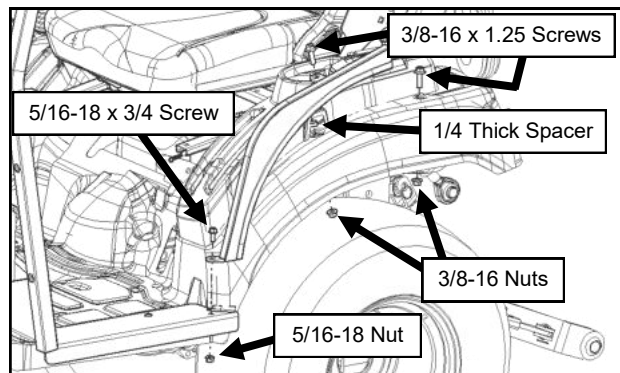

Fig. 4.1 (Contour Assembly)
- 4.1 Assemble the left contour assembly to the left A-Pillar floor board and front hole for the grab handle. See figure 4.1. Use a provided 1/4" thick spacer under the tab for the grab handle hole. Leave just loose enough for adjustment. Use a second bolt and nut to fill the rear grab handle hole and tighten.